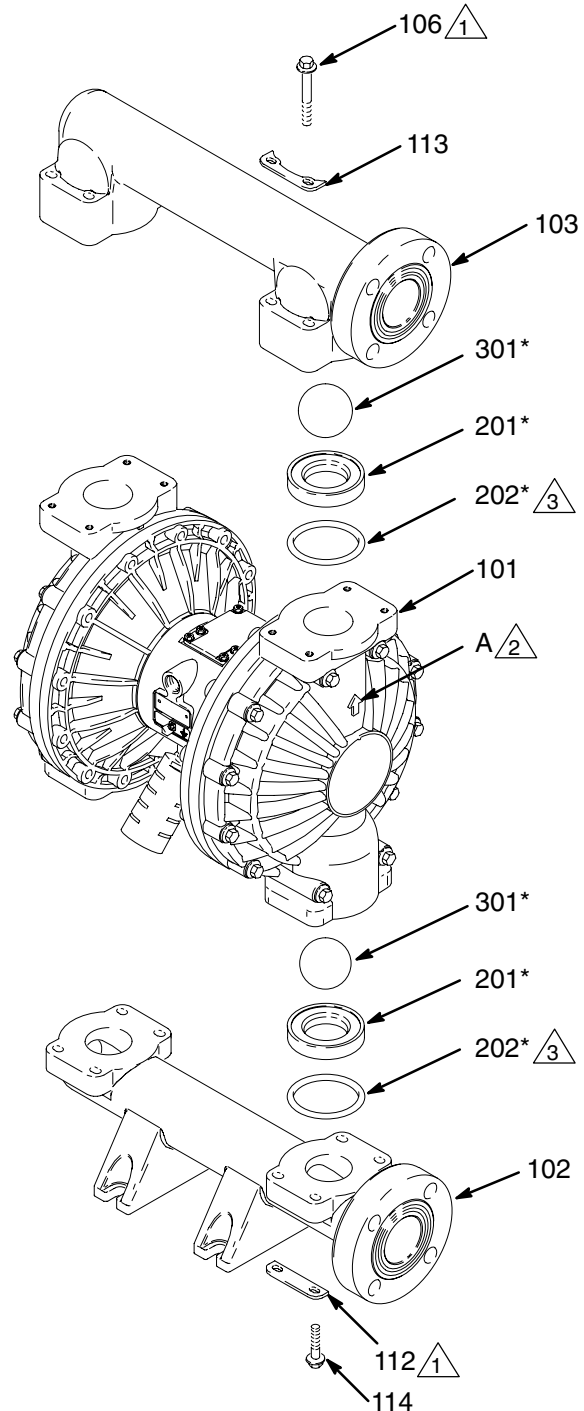

Fig. 11
3. Using a 10 mm socket wrench, remove the eight bolts (106) and four washers (113), holding the outlet manifold (103) to the fluid covers (101). See Fig. 11.
4. Remove the seats (201), balls (301), and o-rings (202) from the manifold.
**NOTE:** Some models do not use o-rings (202).
2. Reassemble in the reverse order, following all notes in Fig. 11. Be sure the ball checks are assembled **exactly** as shown. The arrows (A) on the fluid covers (101) **must** point toward the outlet manifold (103).